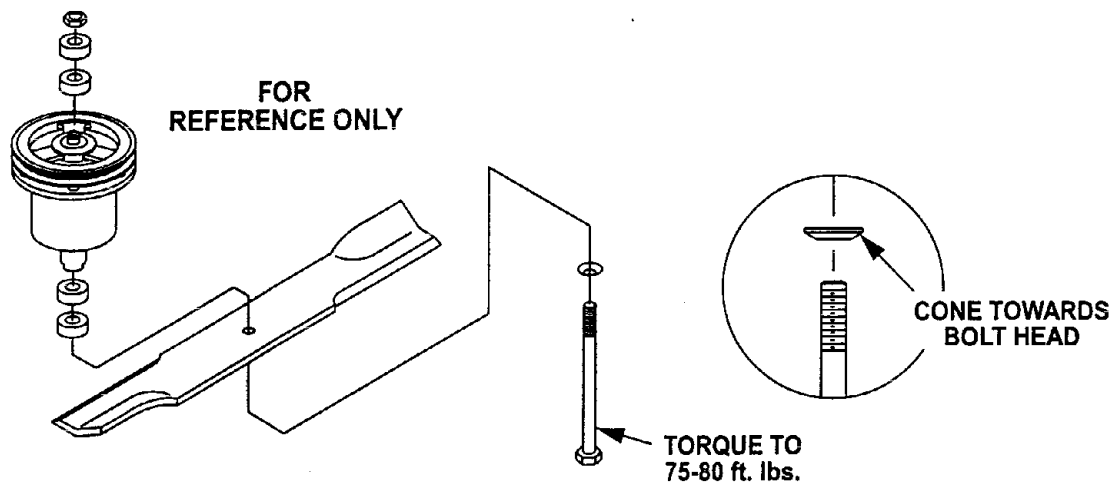

FIG. 7
- g) Re-install the blades (if they were removed) and torque blade bolts to 75-80 ft.lbs. Be sure the spring disk washer cone is installed toward the bolt head (See Figure 7).